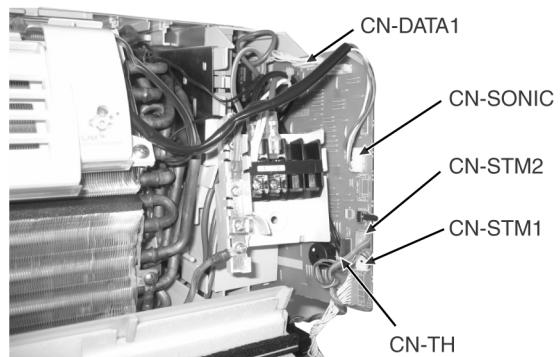

Fig. 5
- Release the CN-DATA1 connector. (Fig. 5)
- Release the CN-SONIC connector. (Fig. 5)
- Release the CN-STM2 connector. (Fig. 5)
- Release the CN-STM1 connector. (Fig. 5)
- Release the CN-TH connector. (Fig. 5)